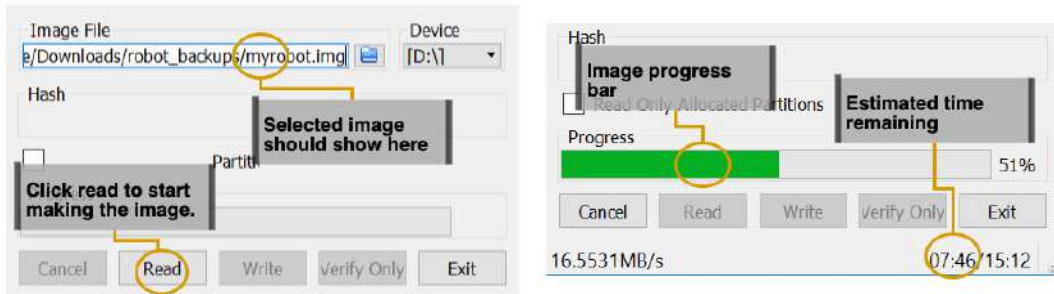

Figure 5.6 – Reading the image
- After clicking **Open**, you'll see a screen like the left side of *Figure 5.6* with your selected location in the **Image File** box. Click on the **Read** button to start copying the image. As it reads the image, you'll see a progress bar and an estimation of the time remaining. When the image is done, Win32 Disk Imager will tell you that the read was successful, and you can then exit the software: